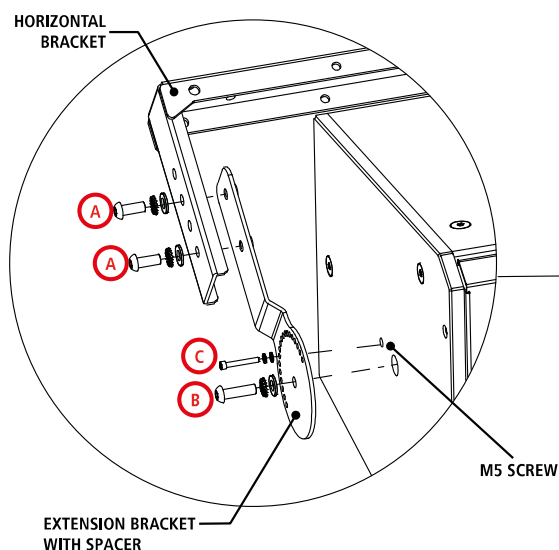

Fig. 2
2. Fix the extension to the bracket by screwing the 2 M10x25 screws **A**, with 1 flat washer and 1 toothed washer each (Fig. 2).
5. Tighten the central M10x40 screw (or M8x45 for 6" and 5" speakers) **B** into the threaded hole on speaker's top and bottom, with 1 flat washer and 1 toothed washer each (Fig. 2).